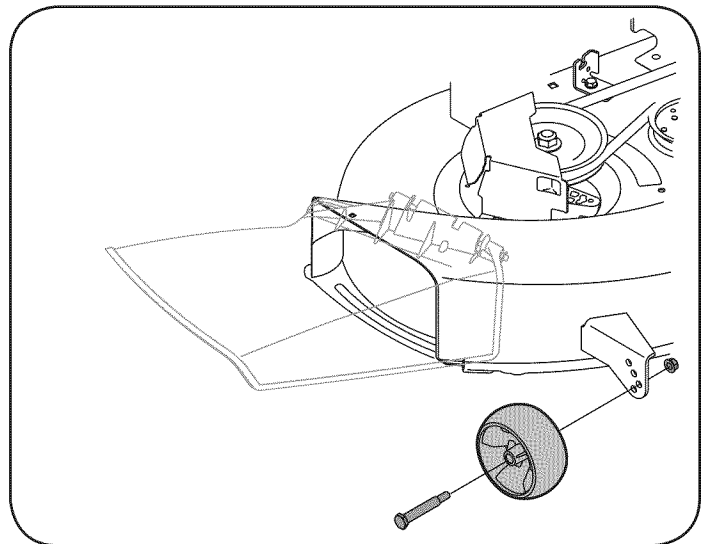

Figure 9
- a. Adjust the deck wheels by removing the flange lock nut and shoulder bolt that secures each wheel and moving it into one of the holes that allows the wheels to be between ¼-inch and ½-inch above the ground when the tractor is on a smooth, flat surface such as a driveway. See Fig. 9